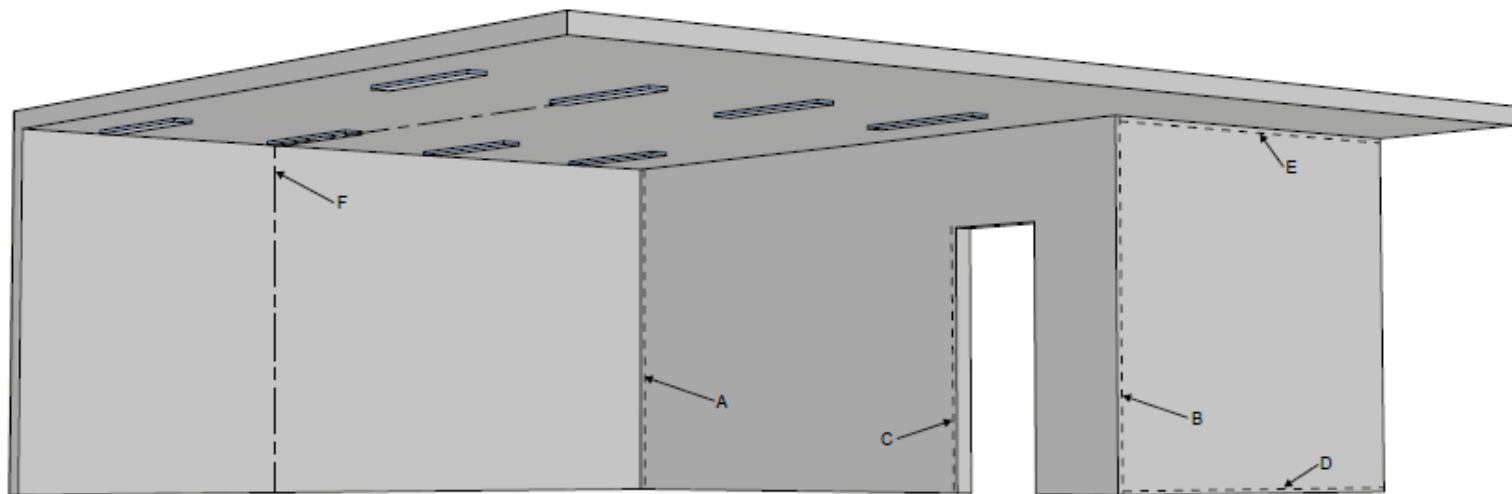

Figure 1
- Establish reference points (e.g., Point A, B, C on a wall, point D or E at the floor or ceiling, or point F at a room feature) to align the furring suspension (see Figure 1).